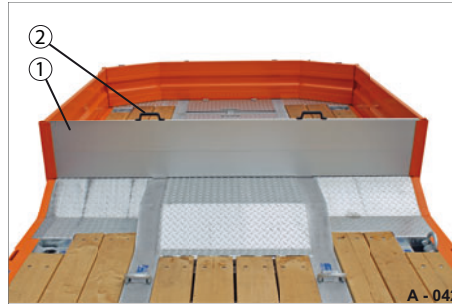

Fig. 40 Aluminium platform gate, connected
- Pull the connectable platform gate (Fig. 40/1) by the handles (Fig. 40/2) completely out of the corner posts.